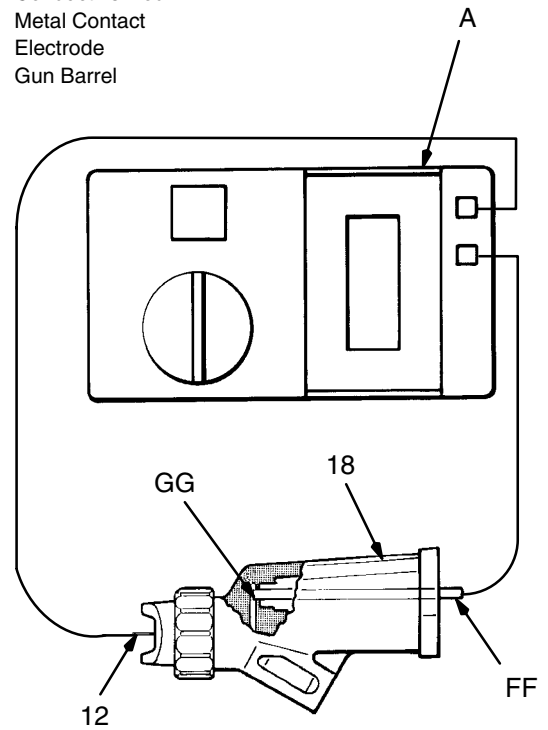

Fig 9
Insert a conductive rod (FF) into the gun barrel (removed for the power supply test) and against the metal contact (GG) in the front of the barrel. See Fig 9.